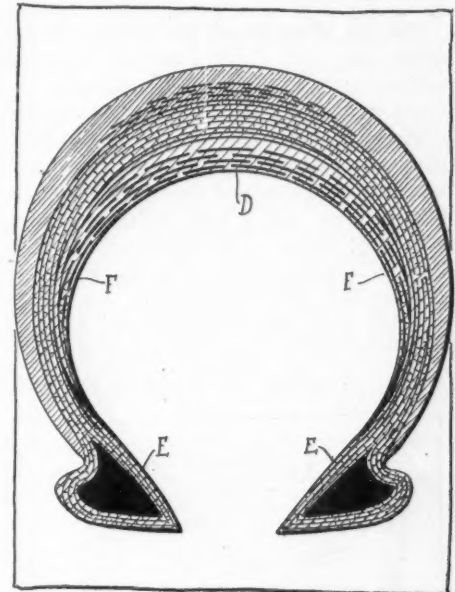

FIG. 20—ATLAS TUBE PROTECTOR
**Atlas Rubber Co.**—This company markets an inner case for pneumatic tires, which is inserted between the regular outer tire casing and the inner tube. As illustrated in Fig. 20, this inner case has a series of metal disks D arranged in a cushion of rubber, which prevents puncturing and which is the feature of the device. The fabric ends at the point E and F marks the combination rubber fabric construc-